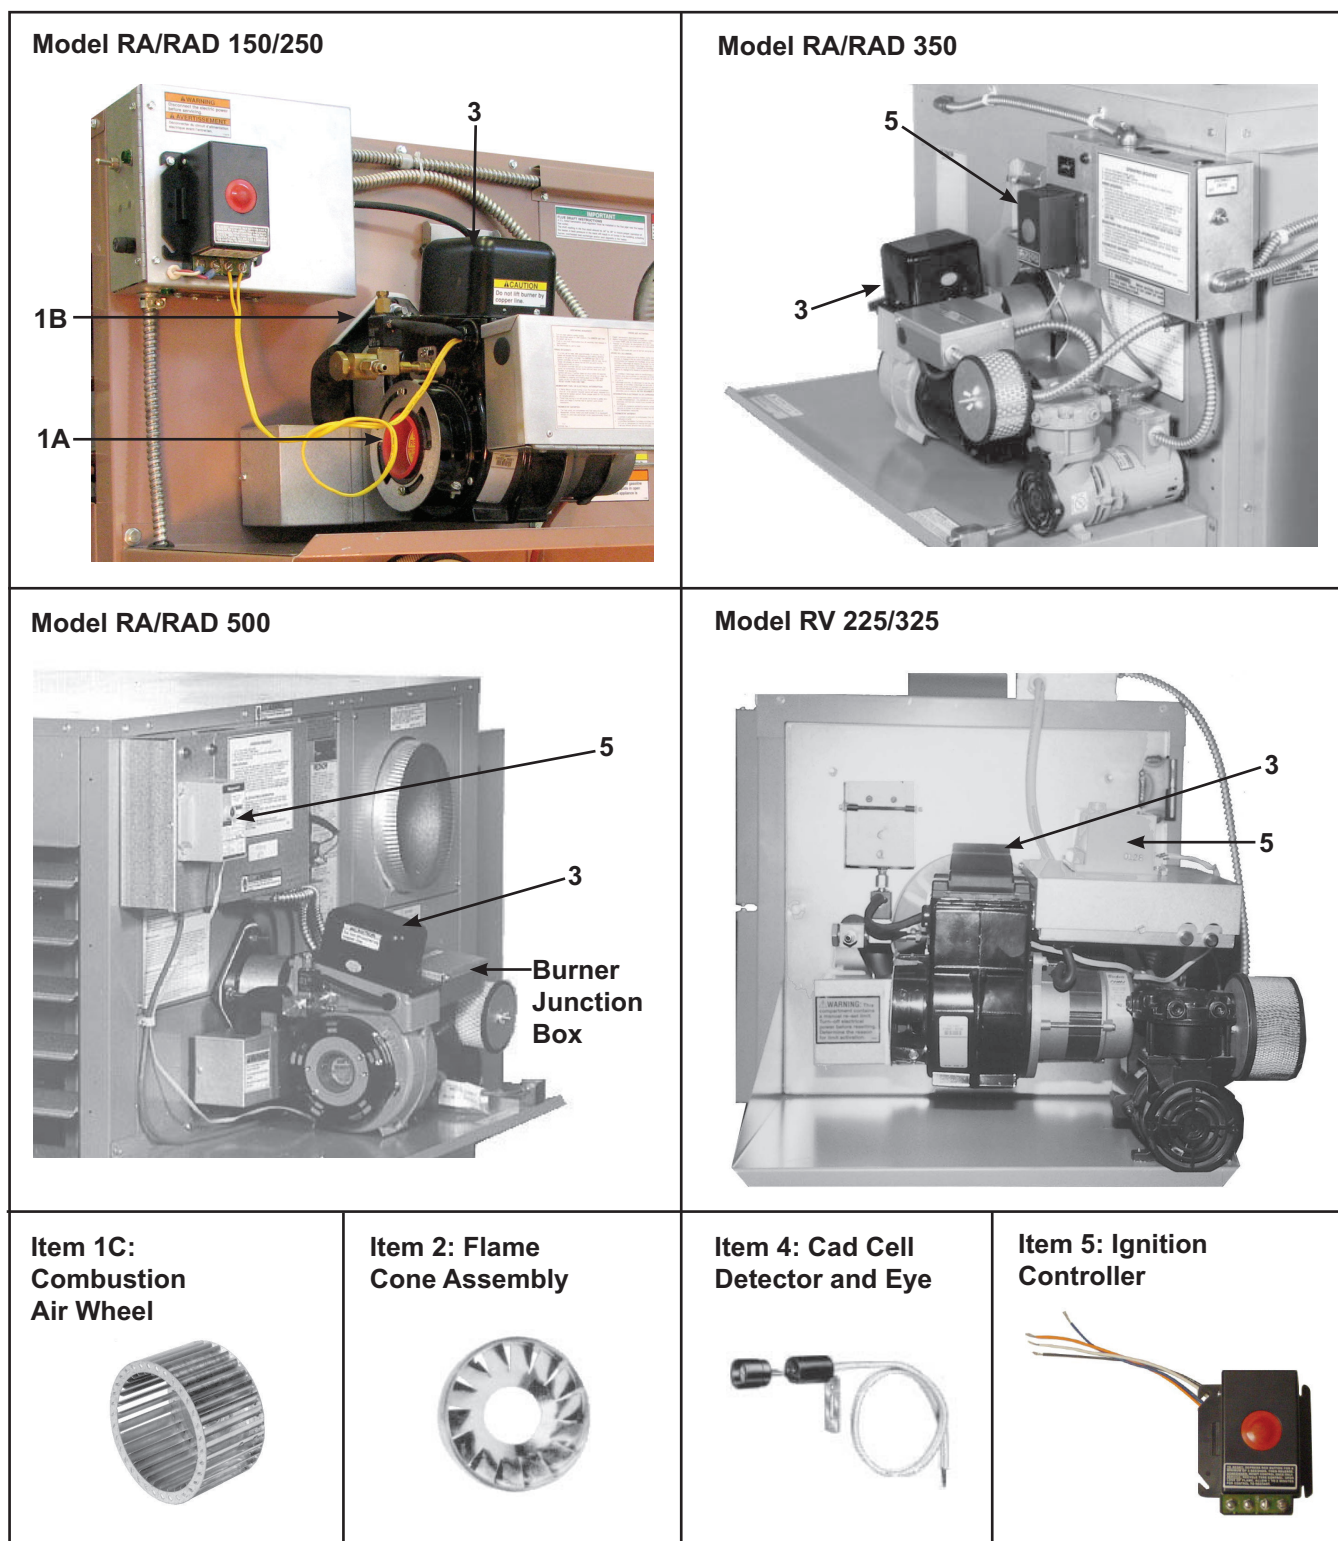

Figure 3. Burner Assemblies/Components (Refer to Table 4)
- Burner assembly components are shown in Figure 3 and listed in Table 4.